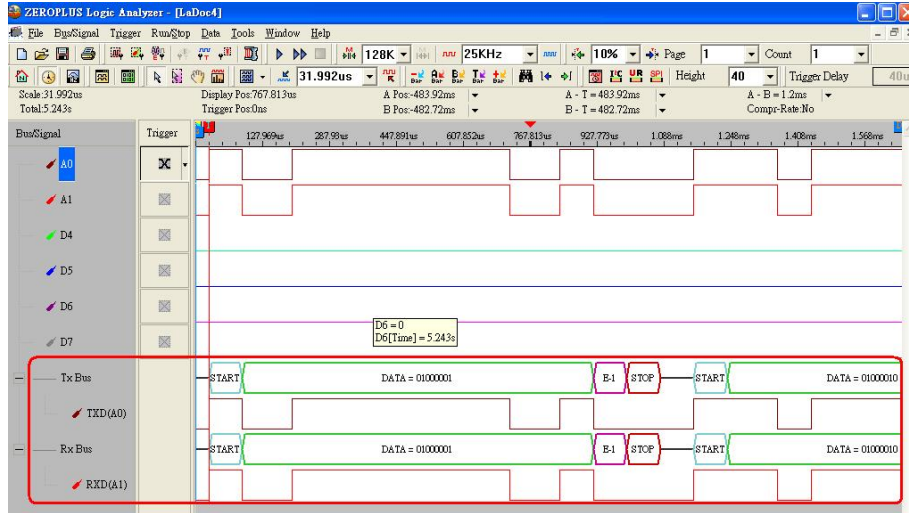

Fig 4-34 – Wave Analysis
Step 6. Click Run, then Active the UART signal from the tested UART circuit to acquire the result on the bottom of the wave display area as shown in Fig. 4-34.